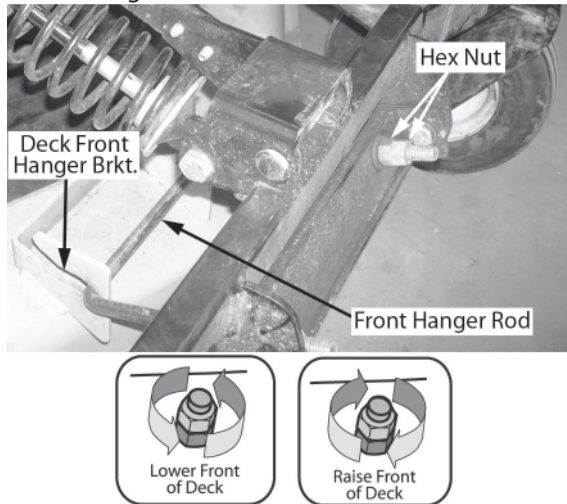

Figure 6-10
- Working at the front of the tractor, loosen the two hex nuts jammed against the rear hex nuts on the front of the deck hanger rod. Thread the hex nuts away from the hex nuts behind them. Refer to Figure 6-10.
- Use an open end wrench to turn the inner hex nuts to adjust the front of the deck. Turn the hex nuts clockwise to raise the front of the deck, or counterclockwise to lower the front of the deck. Adjust the hex nuts evenly so that the deck hanger rod is at the front of both slots in the hanger bracket on the front of the deck. See Figure 6-10.